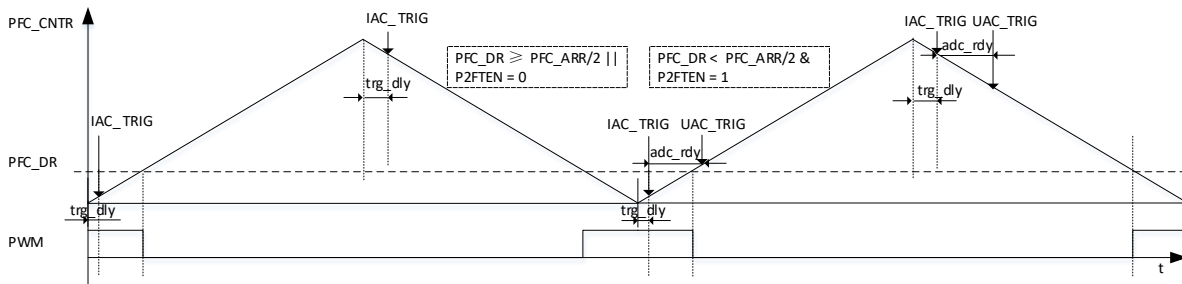

Figure 12-6 Diagram of PWM Output and IAC/UAC Sampling
- The sampling point is determined according to $\text{PFC_CR2}[\text{P2FTEN}]$ and PFC_DR (as shown in Figure 12-6). If $\text{PFC_CR2}[\text{P2FTEN}] = 0$ and $\text{PFC_DR} < \text{PFC_ARR}/2$, sampling is triggered when PFC_CNTR reaches the underflow point. If $\text{PFC_CR2}[\text{P2FTEN}] = 1$ or $\text{PFC_DR} \geq \text{PFC_ARR}/2$, sampling is triggered when PFC_CNTR reaches the overflow point. The time delay for sampling is configurable by PFC_TRGDLY . The overflow point can be set at $\text{PFC_TRGDLY} * 8$, and the underflow point at $(\text{PFC_ARR} - \text{PFC_TRGDLY} * 8)$.